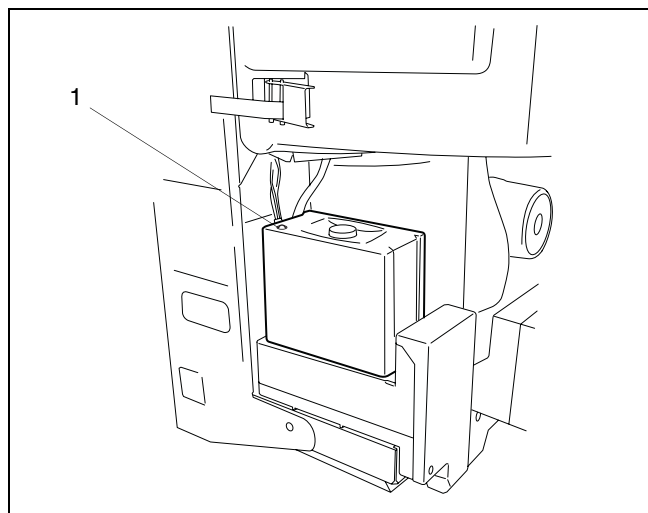

fig. 57 UBA 3
The LED on the UBA 3 (see fig. 57, item 1) can also give useful information.